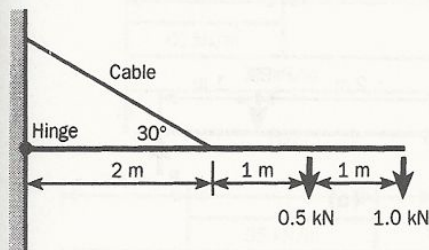

Fig. 5.Q13
- 14 Two uniform rods each 3 m long and weighing 250 N are connected by a link bar (Fig. 5.Q14). Calculate the tensions in the link bar and chain neglecting their weights.